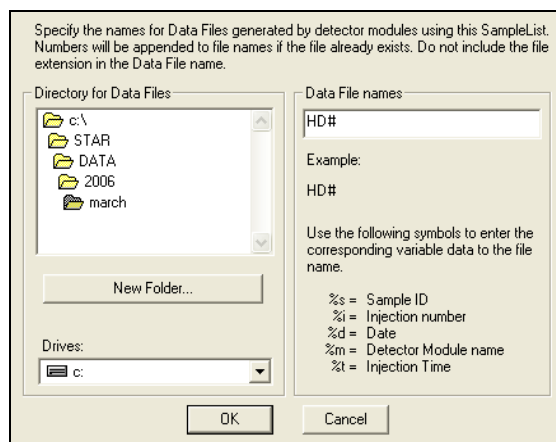

Figure 5: Data File Window
- 9) Click on 'Data File', located at the bottom of the 'Sample List' window. A separate window will open as appears in figure 5.